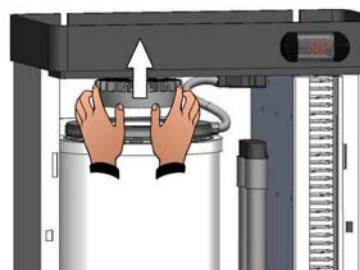

Fig. 31
- Lift the upper steam flange releasing it from the cylinder (fig. 31).